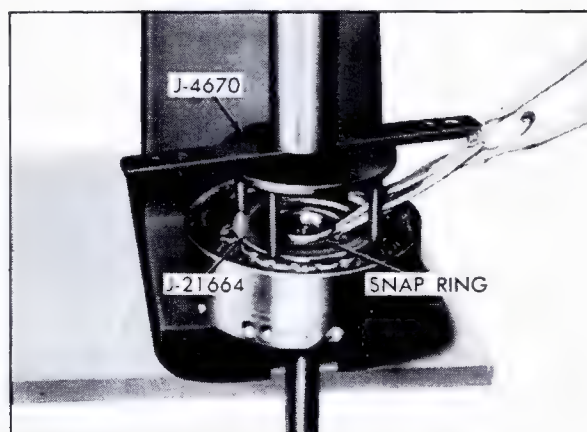

Fig. 7-78 Removing and Installing Forward Clutch Housing Snap Ring
7. Using Clutch Spring Compressor, J-4670, and Adapter, J-21664, compress spring retainer with arbor press and remove snap ring using Snap Ring Pliers, J-8059 or J-5586, Fig. 7-78.
7. Using Clutch Spring Compressor, J-4670, and Adapter, J-21664, compress spring retainer with arbor press, being careful that retainer does not catch in snap ring groove, and install snap ring using Snap Ring Pliers, J-8059 or J-5586, Fig. 7-78. Remove tools.